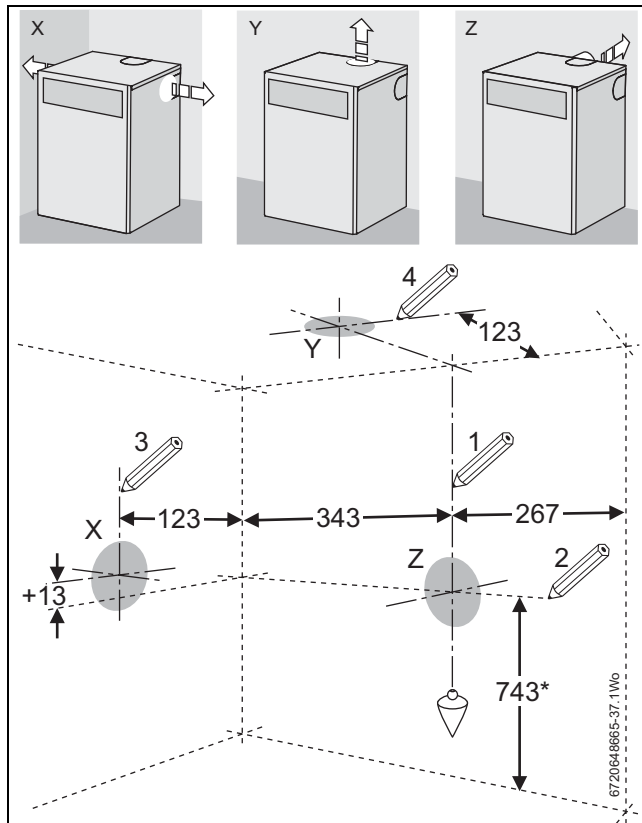

Fig. 21 Boiler flue outlet positions
- ▶ Follow the figure 21, page 22 to mark the centre of the flue [1 & 2] for rear opening, [2 & 3] for side opening or [1 & 4] for top opening. Measurements shown include the minimum service clearances.